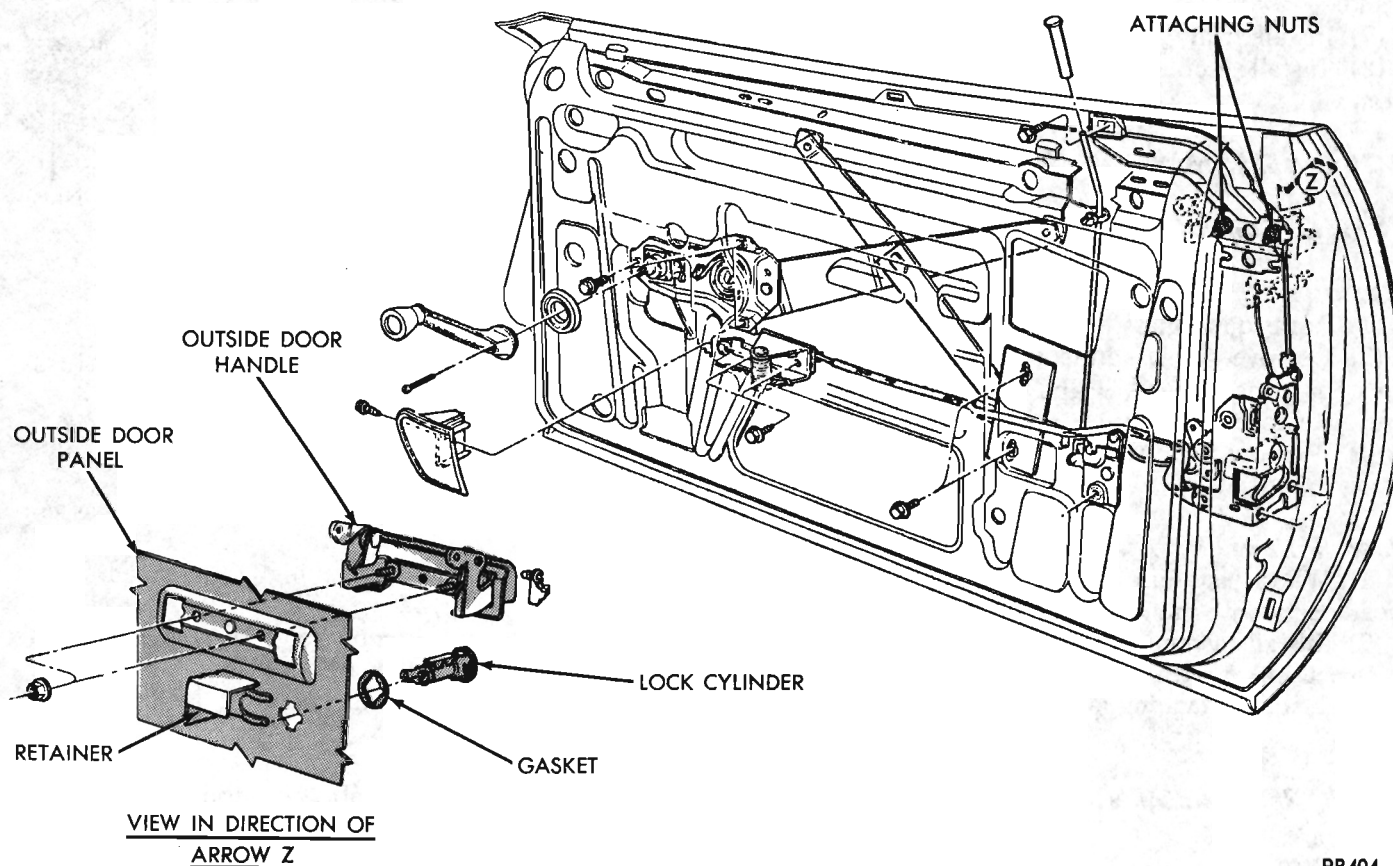

Fig. 24 - Front Door Handle
(1) With door glass in up position, remove door handle attaching nuts from mounting studs (Fig. 24) and link from handle to lock.
(2) Lift handle up and remove from door.